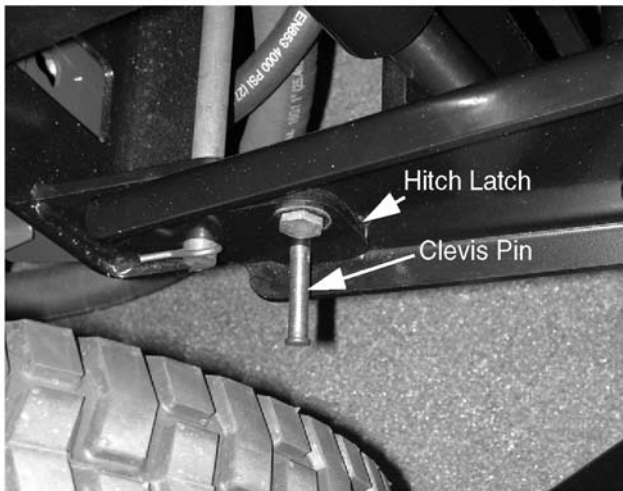

Figure 8-89.
6. Remove the hairpin clips and clevis pins that lock the latches into position on the tiller hitch link assembly. See Figure 8-89.